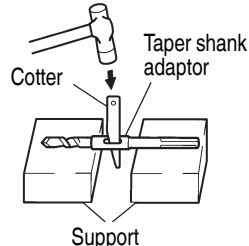

Fig. 22
- (2) Turn the power on and drill a base hole.
- (3) After cleaning out dust with a syringe, attach the plug to the anchor tip and drive in the anchor with a manual hammer.
- (4) To remove the drill bit with taper shank, insert a cotter into the slot of the taper shank adaptor, place supports under the Rotary Hammer and tap the cotter with a manual hammer. (Fig. 22)